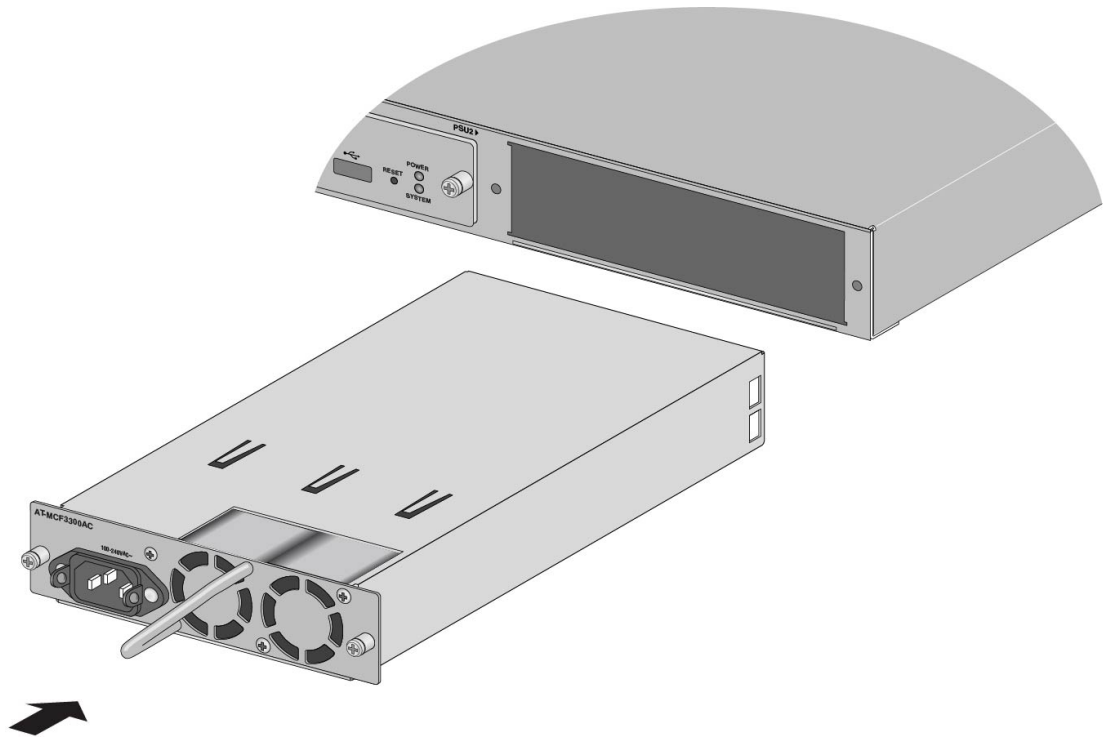

Figure 40. Positioning the MCF3300AC Power Supply
4. Position the power supply as shown in Figure 40 and slide it into the slot until it makes contact with the connector inside the chassis.